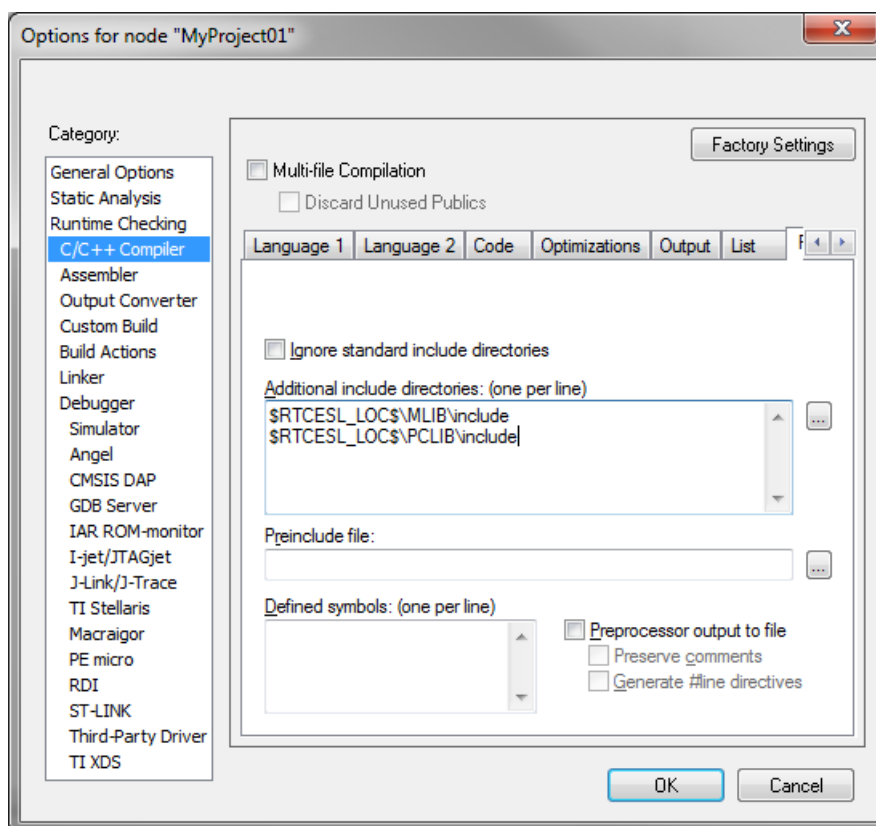

Figure 1-46. Library path addition
5. Click OK in the main dialog. See Figure 1-46.